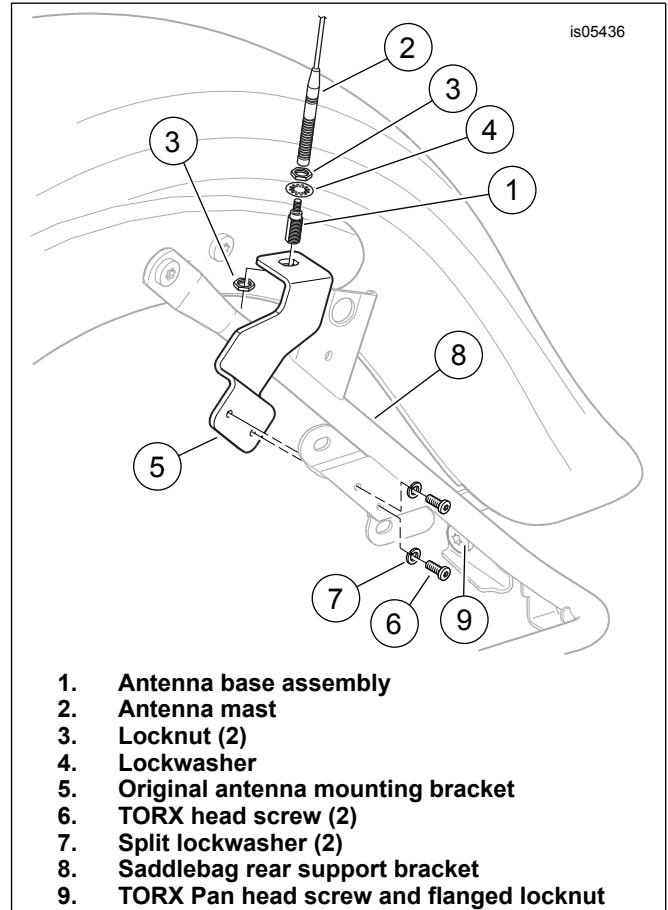

Figure 1. Original Antenna Mount
2. See Figure 1. Disconnect the antenna cable from the antenna base assembly (1).
3. Unscrew the antenna mast (2) from the antenna base, and set it aside for later installation.
4. Remove the lower locknut (3), and remove the antenna base from the mounting bracket (5). Save both locknuts, but discard the lockwasher (4).
5. Remove the two TORX® head screws (6) and lockwashers (7) retaining the antenna mounting bracket to the saddlebag rear support bracket (8). Discard the bracket and fasteners.